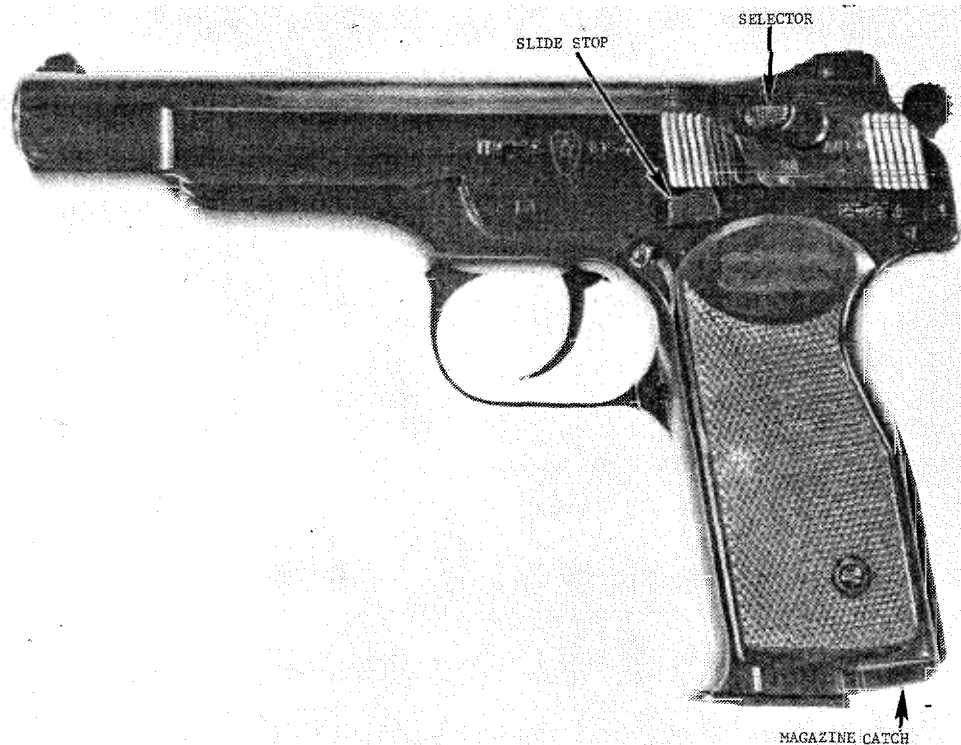

Figure 21. Soviet Stechkin machine pistol (APS).
or stock to aid in accurate long-range firing. The Soviet Stechkin machine pistol (fig 21) was issued in limited numbers, and although now obsolete, it may be in use by special units such as border guards, security police, or in countries given Soviet military aid.
a. Insert the magazine into the pistol until the magazine catch (fig 21) retains the magazine.
d. Position the selector (fig 21) for the type of fire desired--at **ОД** for semiautomatic fire, at "ABT" for full-automatic fire, or at **НР** for safe.
f. Remove the magazine by pressing the magazine catch (fig 21) rearward and pulling the magazine out of the pistol. The slide can be closed by pressing the slide stop down or by pulling the slide rearward and releasing it.
d. The extractor holds the fired cartridge case to the face of the slide until the case strikes the ejector. The ejector, an extension on the slide stop (fig 21), expels the fired case from the pistol. The driving spring forces the slide forward; during the forward movement, a cartridge is loaded from the magazine into the barrel.